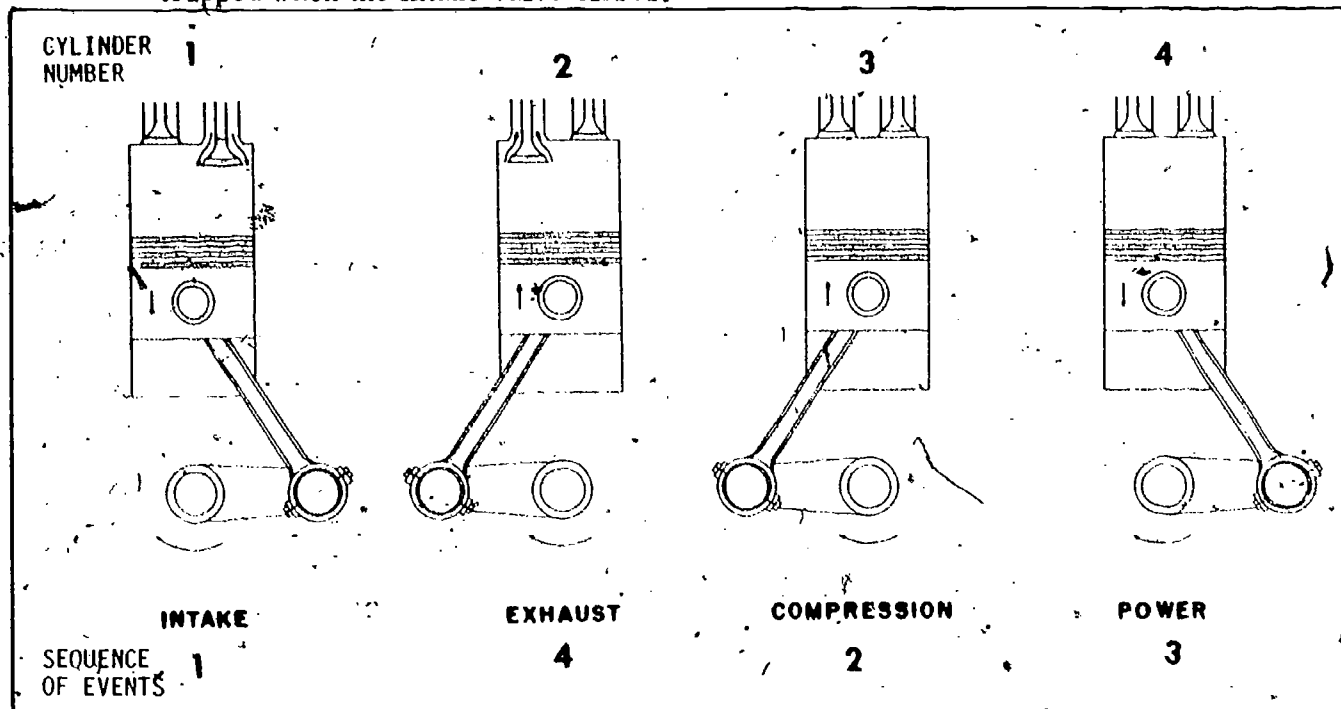

Fig 2-8. Four-stroke-cycle of a 4-cylinder engine.
- (1) **Four-stroke cycle (fig 2-8).** The 4-stroke cycle refers to the number of times a piston must move from one end of a cylinder to the other to complete a cycle. A stroke is the movement of a piston from one end of a cylinder to the other, as from top to bottom or from bottom to top. A cycle is the chain of events necessary to intake air or air-fuel mixture, to burn and produce the power, and to prepare a cylinder for another cycle. In the 4-stroke-cycle engine, a cycle is completed in two down and two up
- (b) **Compression.** If you study figure 2-8 closely, you will note that in multicylinder engines, while one cylinder is on the intake stroke, the other cylinders are performing a different stroke. With both valves closed and the piston moving up, the air or air-fuel mixture is compressed. When the piston was at the bottom of the intake stroke the cylinder had a maximum volume. It is now being compressed to the smallest volume; the ratio of the maximum volume to the least volume is called compression ratio. The compression ratio of an engine determines the type of fuel that can be used most economically; it also determines how the fuel will be ignited. (You learned earlier that a hot mixture is easier to ignite than a cold mixture.) The compression stroke is completed when the piston has reached the top and the mixture is ignited. Ignition can be by an electric spark or by heat of compression. The crankshaft has now turned one full revolution, but the camshaft has only turned  $180^\circ$ . When the piston is at the top on the compression stroke, it is referred to as "top dead center" (TDC).